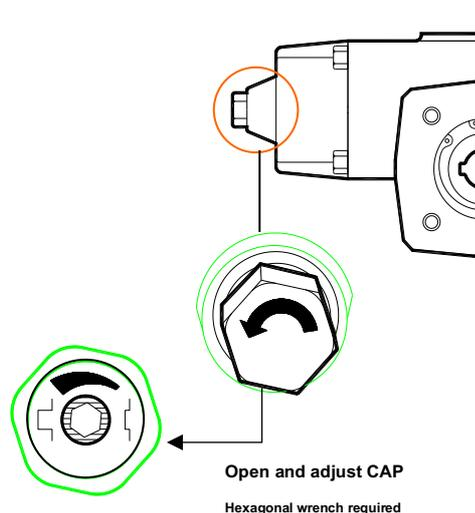

Figure 3.6 [F/C Stroke Limiter]
- 2) If the valve does not fully close even after pressing the CLOSE button on the MHPWS-QNN, open the MHPWS-QNN valve slightly, then loosen the plug cap on the closing side of the hydraulic cylinder as shown in **Figure 3.6**, and turn the stroke limiter counterclockwise.